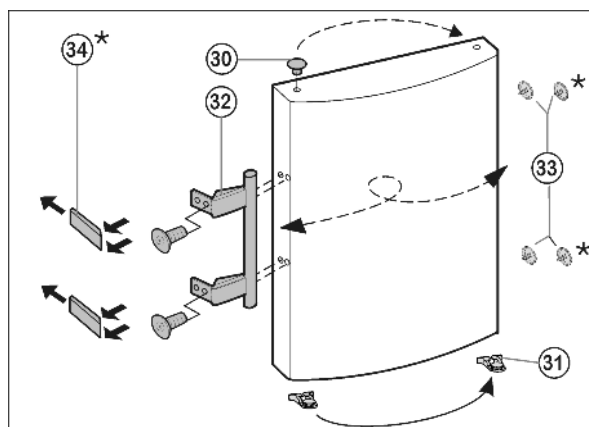

Fig. 8
- ▶ Lift the stopper *Fig. 8 (30)* out of the door bearing bush and transfer it.
- ▶ Detach door handle *Fig. 8 (32)*, stopper *Fig. 8 (33)* and pressure plates *Fig. 8 (34)* and transfer to the opposite side.